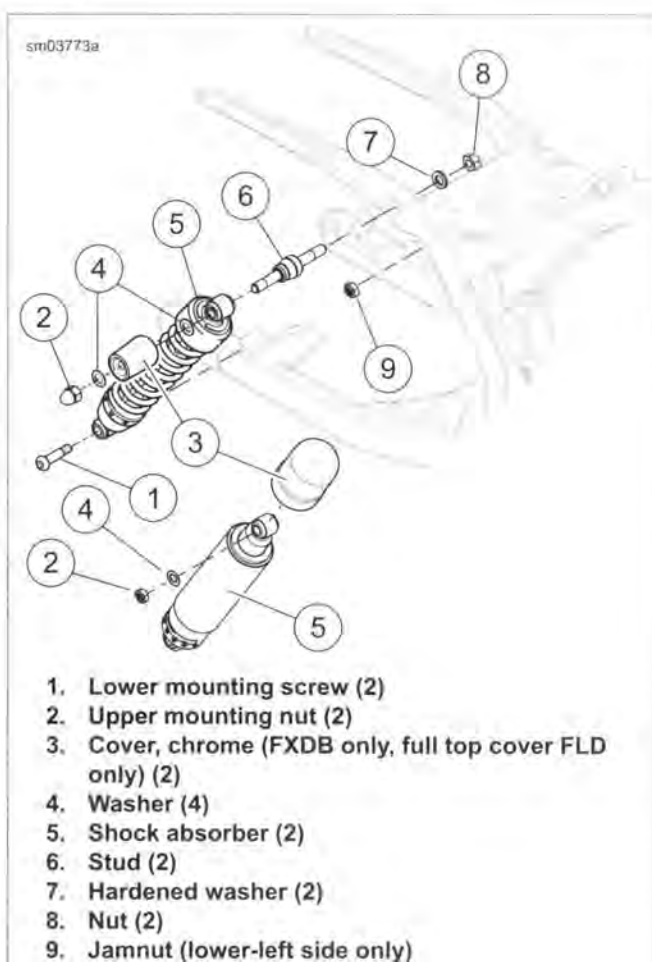

Figure 2-116. Rear Shock Absorber Mounting
2. See Figure 2-116. Remove lower mounting screw (1). Jamnut (9) is only used on left side.
3. Remove upper mounting nut (2), washer (4), shock absorber (5), and cover (3).
5. If removing stud (6), remove nut (8) and hardened washer (7).
1. See Figure 2-116. If removed, install stud (6), hardened washer (7) and nut (8). Tighten to 75-85 ft-lbs (101.7-115.2 Nm).
- a. Apply two to three drops of LOCTITE 243 MEDIUM STRENGTH THREADLOCKER AND SEALANT (blue) to threads of lower mounting screw (1).
4. Apply two to three drops of LOCTITE 243 MEDIUM STRENGTH THREADLOCKER AND SEALANT (blue) to threads of upper mounting nut (2).
- a. Install cover (3), shock absorber (5), and washer (4).
- b. Install upper mounting nut (2) finger-tight.